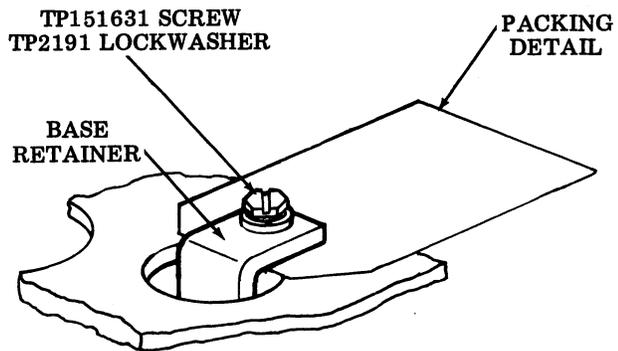

Figure 10 - Base Retainers
4.01 Remove the 6-40 screws from the two base retainers (Figure 10). DO NOT REMOVE THE BASE RETAINERS. Remove packing detail between base and pan. When packing detail is removed, vibration mounts will push the base against the base retainers. When installed, the weight of the typing unit will restore clearance between base and base retainers.